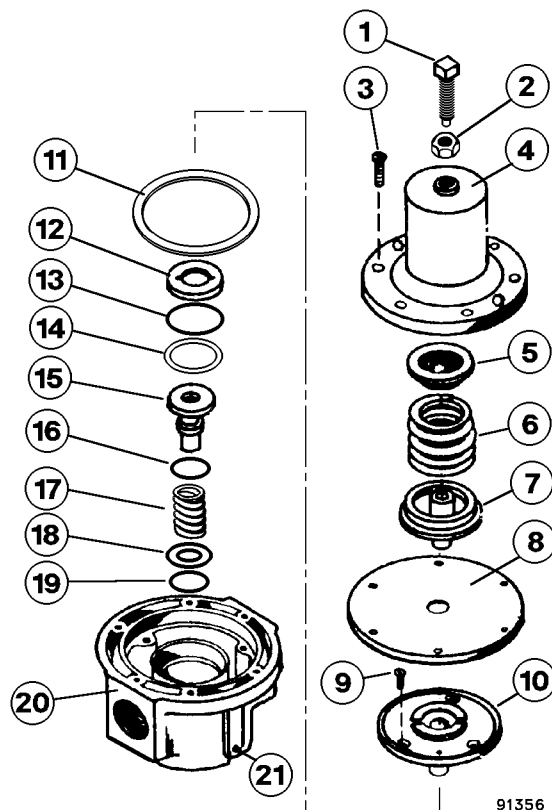

FIGURE 3-4. PRESSURE REGULATING VALVE
1. Remove pipe plug (21, Figure 3-4) and install an air pressure gauge.
2. Loosen jam nut (2, Figure 3-4) and remove adjusting screw (1).
3. Remove screws (3) and lift off bonnet (4).
4. Remove spring seat (5) spring (6), and diaphragm follower (7).
5. Remove diaphragm (8). Remove screws (9) and baffle (10).
6. Remove gasket (11), valve seat (12), O-ring (13) and gasket (14).
7. Pull plunger (15) from body (20) and remove O-ring (16), spring (17), washer (18) and O-ring (19).
3. Inspect all parts for wear or damage. Pay particular attention to the diaphragm (8, Figure 3-4), valve seat (12), and plunger (15).
1. Install O-ring (19, Figure 3-4), washer (18), spring (17). Position O-ring (16) on plunger (15) and install plunger.
2. Position gasket (14), O-ring (13) and valve seat (12) in body (20).
3. Install gasket (11), baffle (10). Secure baffle in place with screws (9).
4. Install diaphragm (8), diaphragm follower (7), spring (6) and spring seat (5). Install bonnet (4) and secure in place with screws (3).
5. Install adjusting screw (1) with jam nut (2). Do not attempt to tighten adjusting screw at this time. Refer to "Adjustment".